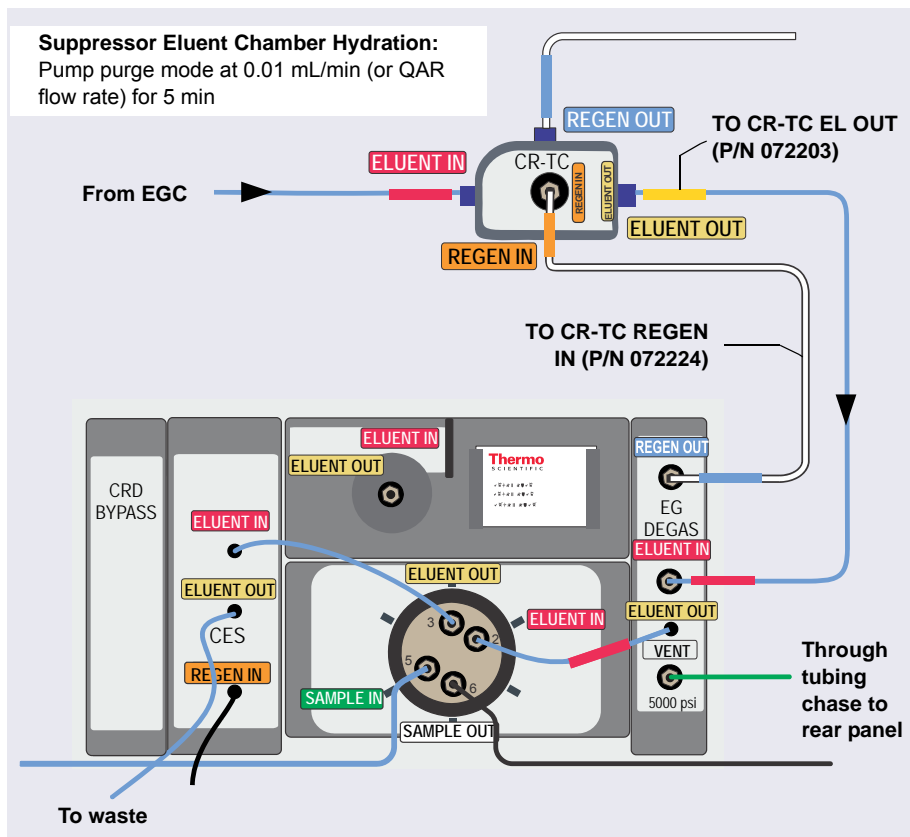

Figure 4-8. Flow Schematic for Hydrating the Suppressor Eluent Chamber in a Capillary IC System
1. Connect the plumbing for suppressor hydration as shown in Figure 4-8.